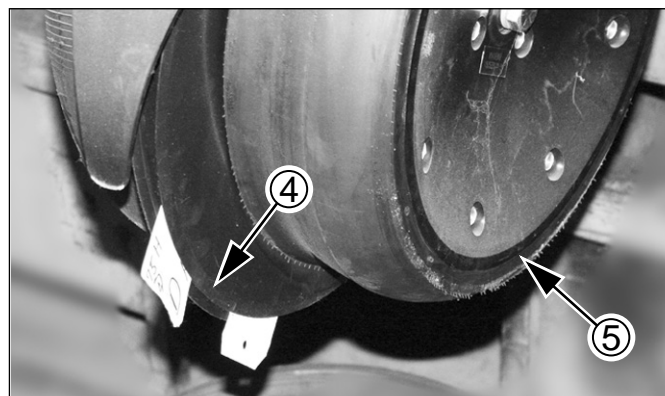
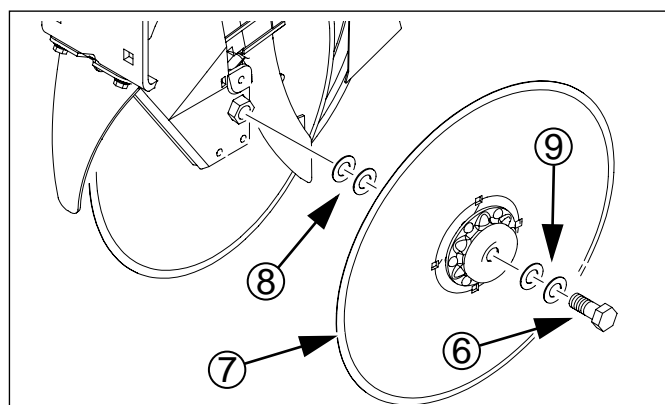

Figure 52
Figure 53
*Refer to Figure 52 and Figure 53*